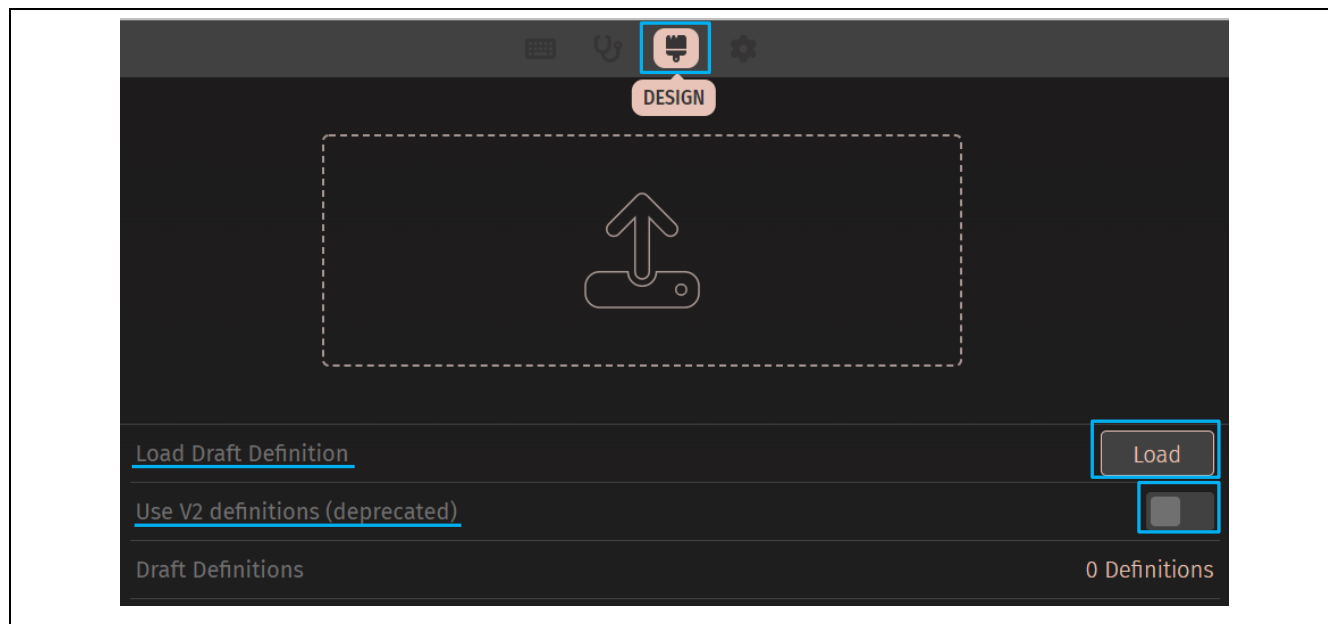

Figure 5-36 VIA Tool DESIGN Page
3. In **DESIGN** page as shown in Figure 5-36, disable **Use V2 definitions (deprecated)** function.